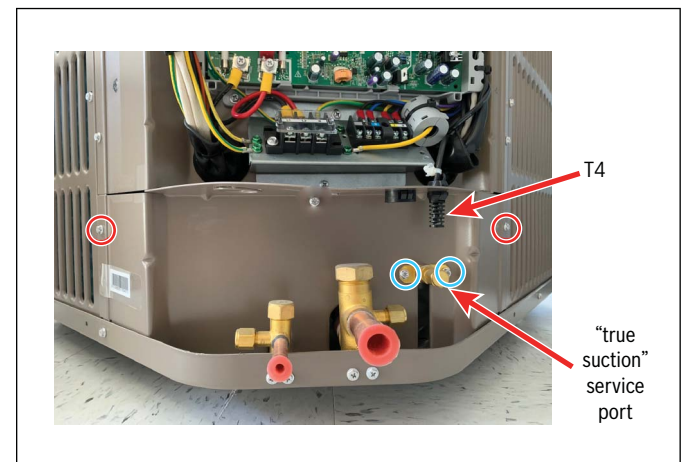

Figure 7 Remove Bottom Access Panel
9. Unscrew 2 screws (red) on the panel and 2 screws (blue) mounting the "true suction" service port. Remove Bottom Access Panel. Keep screws to re-install later. See Figure 7.